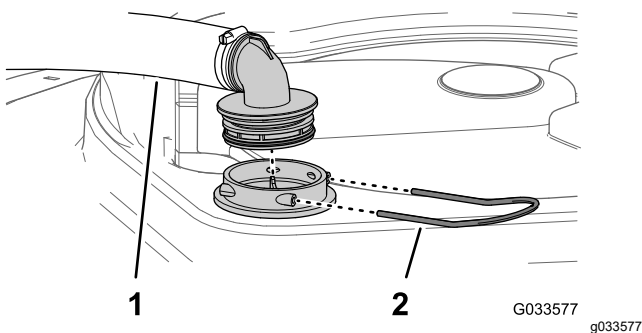

Figure 100
2. At the top of the sprayer tank, remove the retainer that secures the hose fitting attached to the large hose from the filter housing (Figure 100).
3. Remove the hose and hose fitting from the filter housing (Figure 100).